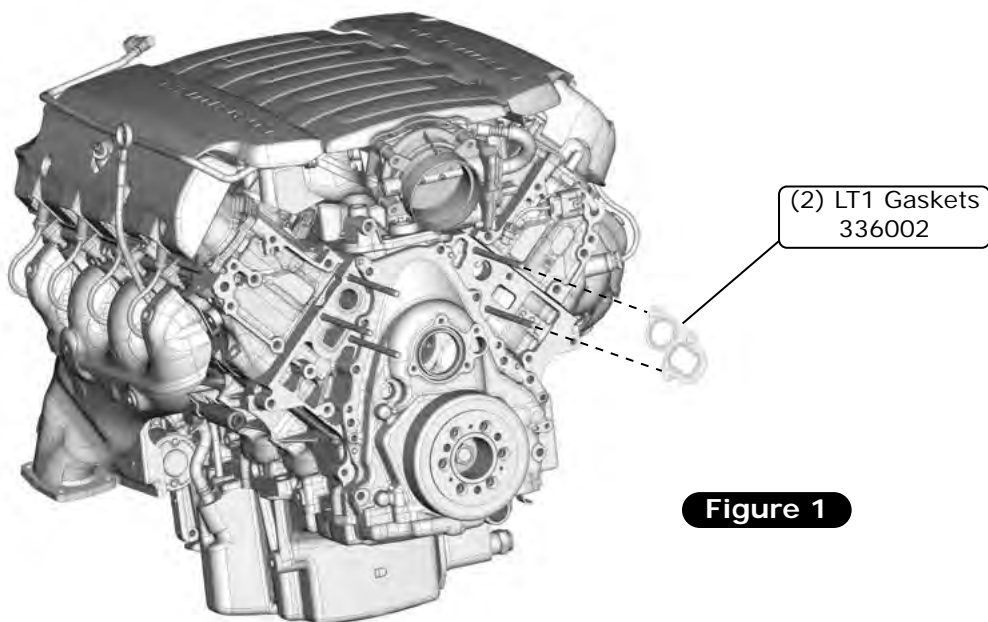

Figure 1
1. Install (2) gaskets, free of lubricant or sealant, over studs (See Figure 1, below).